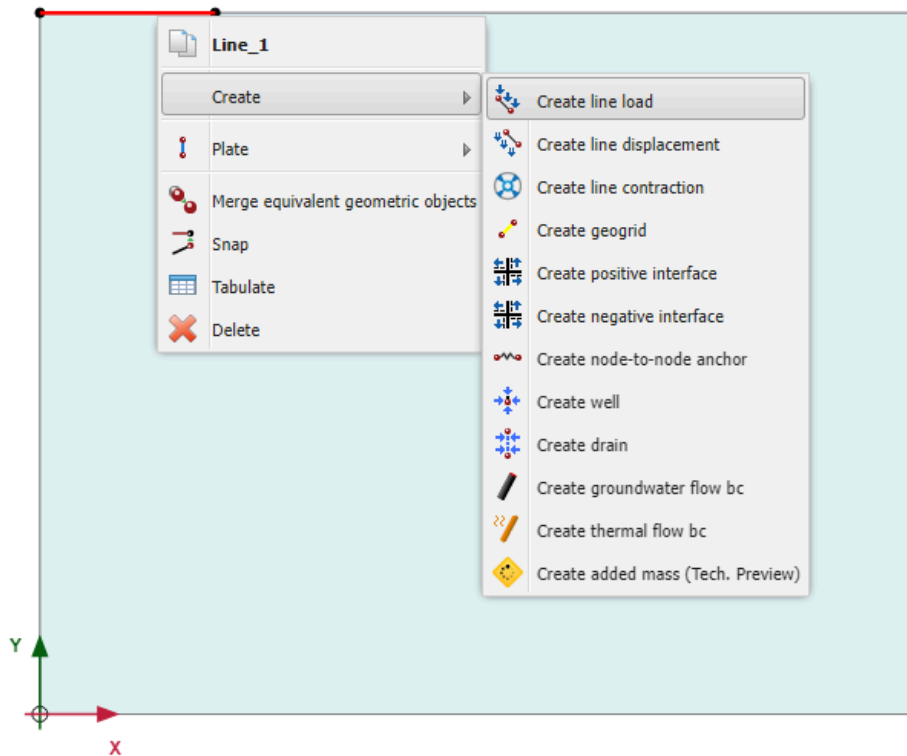

Figure 1-23: Create line load option
- 5 In the model right-click again the line at the location of the footing and select **Create** > **Create Line load** as shown in Figure 1-23 \(p. 33\).